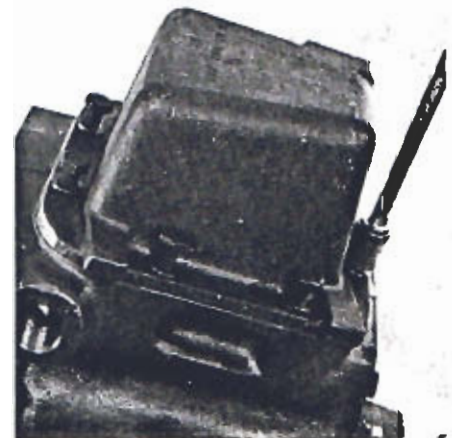

Figure 34 Assemble oil pan
**STEP 50** Assemble a gasket and oil pan to case, figure 34.